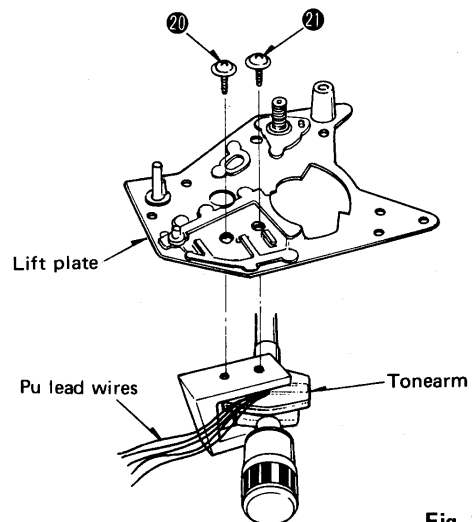

Fig. 10
● **How to remove the tonearm (Fig. 10)**
3. Remove the 2 setscrews [ Fig. 10: ⑳ ~ ㉑ ] of the lift plate.